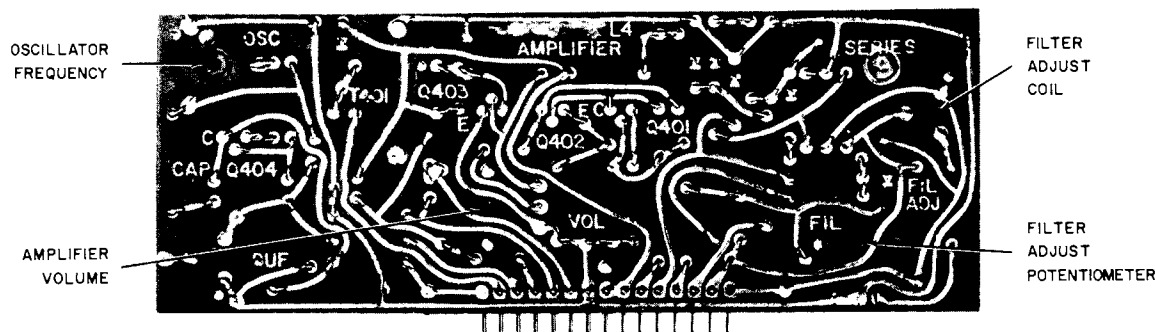

FIGURE 22 AMPLIFIER ADJUSTMENTS
- j. Adjust the AMPLIFIER VOLUME control (fig. 22) for a reading of 0.5 to 0.6 volts on the AC VTVM.
- Use a non-ferrous tuning stick to rotate the OSCILLATOR FREQUENCY control (fig. 22) until the slowest beat tone is heard. (It may be necessary to dissolve the red Glyptal sealant with alcohol.)
- When the talk-down tone comes on (4 seconds after the "B" Deck starts), adjust the FILTER ADJUST COIL and FILTER ADJUST POTENTIOMETER together for a minimum reading on the AC VTVM. See fig. 22. Be sure to use a non-ferrous tuning stick to adjust the FILTER ADJUST COIL.